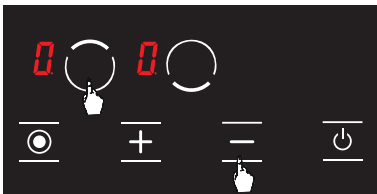

Figure 18
2. Press upper hob selection key () and minus key () simultaneously. (see Fig. 18) You shall hear a short warning signal at this time. Then, remove your fingers from the stove control panel.